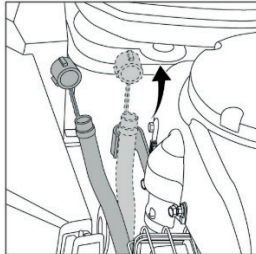

FIG.30A
3. LOCALIZE A BUCHA DE DRENAGEM DE ÓLEO E PUXE-A PARA BAIXO PARA REMOVÊ-LA. (FIG.30A)